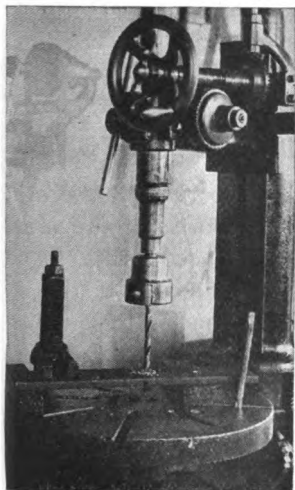
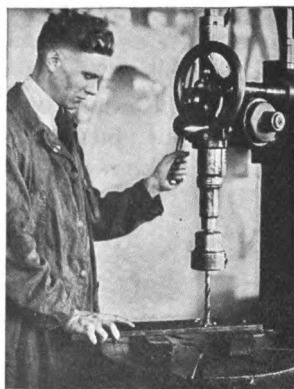

Fig. 27
Fig. 28
- 101 The work should never be held in the hand. It should be rigidly *clamped* to the table of the press. (Fig. 27.) Where the work is held in the hand, the danger of breaking, owing to lack of rigidity and side support, is tremendously increased, and the danger to the operator resulting from whirling work is considerable. (Fig. 28.)